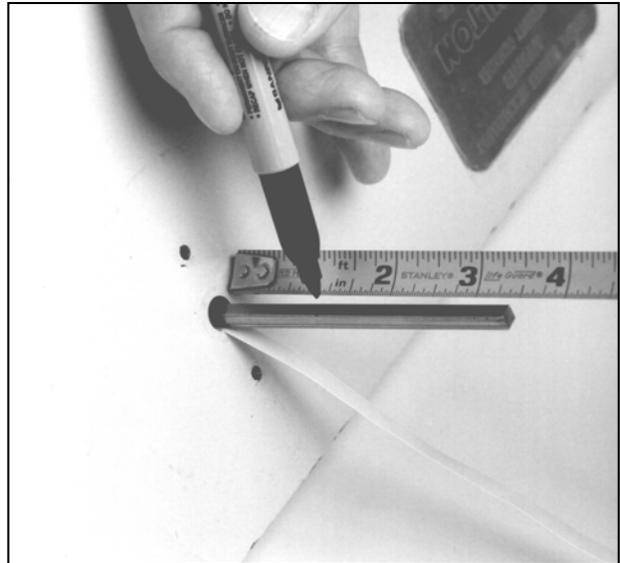

Fig. 4 - Mark spindle for cutting
9. Mark the spindle shaft 1 1/4" from the outside of the container door for cutting (plus or minus 1/8" allowed) (Figure 4).